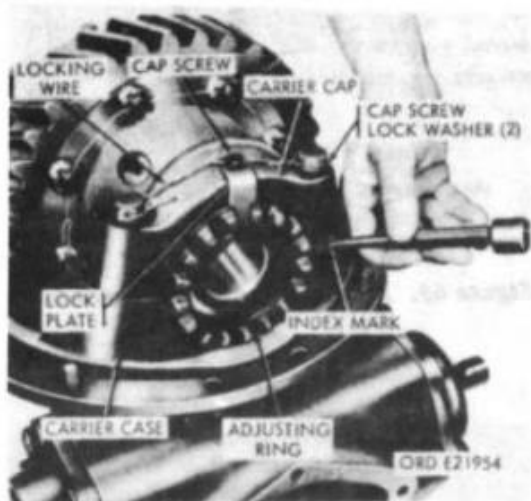
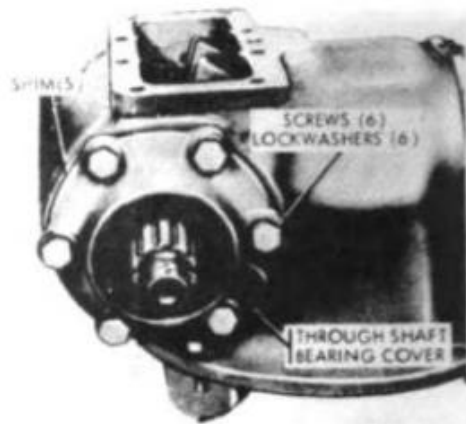

Figure 72. Removal of differential assembly
Figure 73. Removal of through shaft bearing cover
*c. Removal of Differential from Carrier (Fig. 72).*
(1) Punch an index mark on each differential carrier cap and another mark directly opposite on carrier case to ensure proper assembly.
(2) Remove the locking wire from the differential cap bolts. Remove the lock plate capscrew and lock plate from each side of the differential assembly.
(3) Remove the two capscrews securing each carrier cap to the carrier case and carefully remove the carrier caps and adjusting rings. Lift the differential assembly from the carrier case.
*d. Removal of Through Shaft Bearing Covers (Fig. 73).* Remove six capscrews and lockwashers securing each through shaft bearing cover to the carrier case. Remove covers and shims from case. Tie shims to respective cover to facilitate adjustment during assembly.